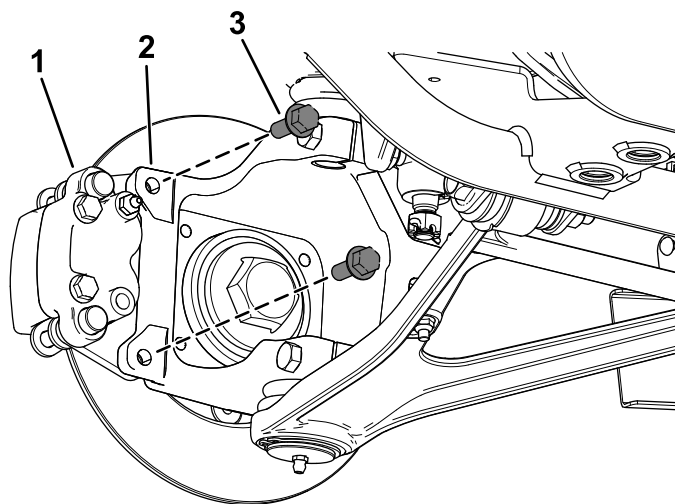

Figure 9
5. Install the new brake-caliper assembly to the steering knuckles and rear axles using the previously removed 2 flange-head bolts (3/8 x 1 inch) as shown in Figure 9.